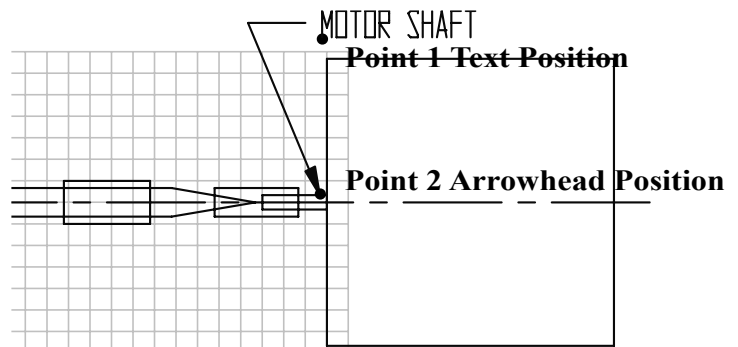

FIG. 12
Step 6. Click Point 1 for the text position, **Fig. 12**.
Step 8. Click on the line of the Motor Shaft, Point 2 to indicate the arrow tip position, **Fig. 12**